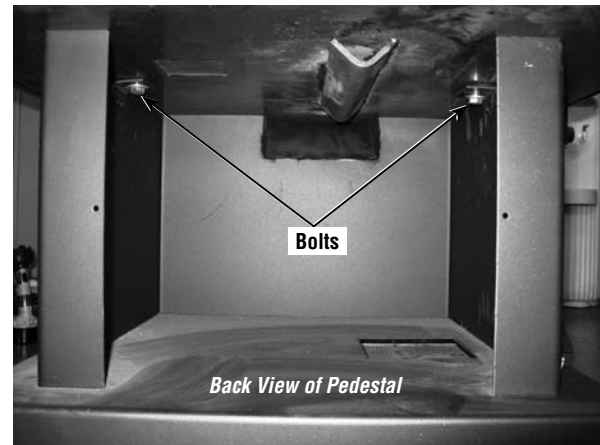

Figure 15
Step 1. From rear of stove, using a 9/16" wrench or socket, loosen both left and right pedestal mounting bolts but do not fully remove the bolts from threaded holes as shown in **Figure 15.**